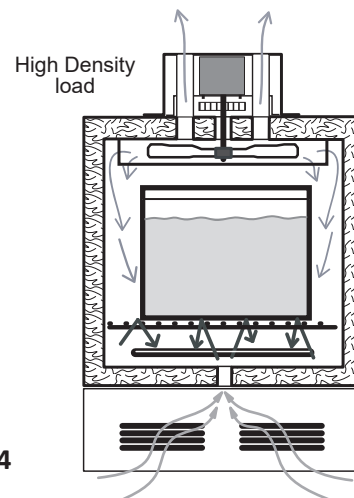

FIG. 5
- ▶ Avoid extremely large (in quantity or size), or high-density loads (FIG. 5). This will show by non-uniform processing and long or impossible "heat-through" times. To help determine a large load's suitability, use the set-point recovery time (the time it takes for the temperature to recover to the original set temperature once the load is placed), as a guide.